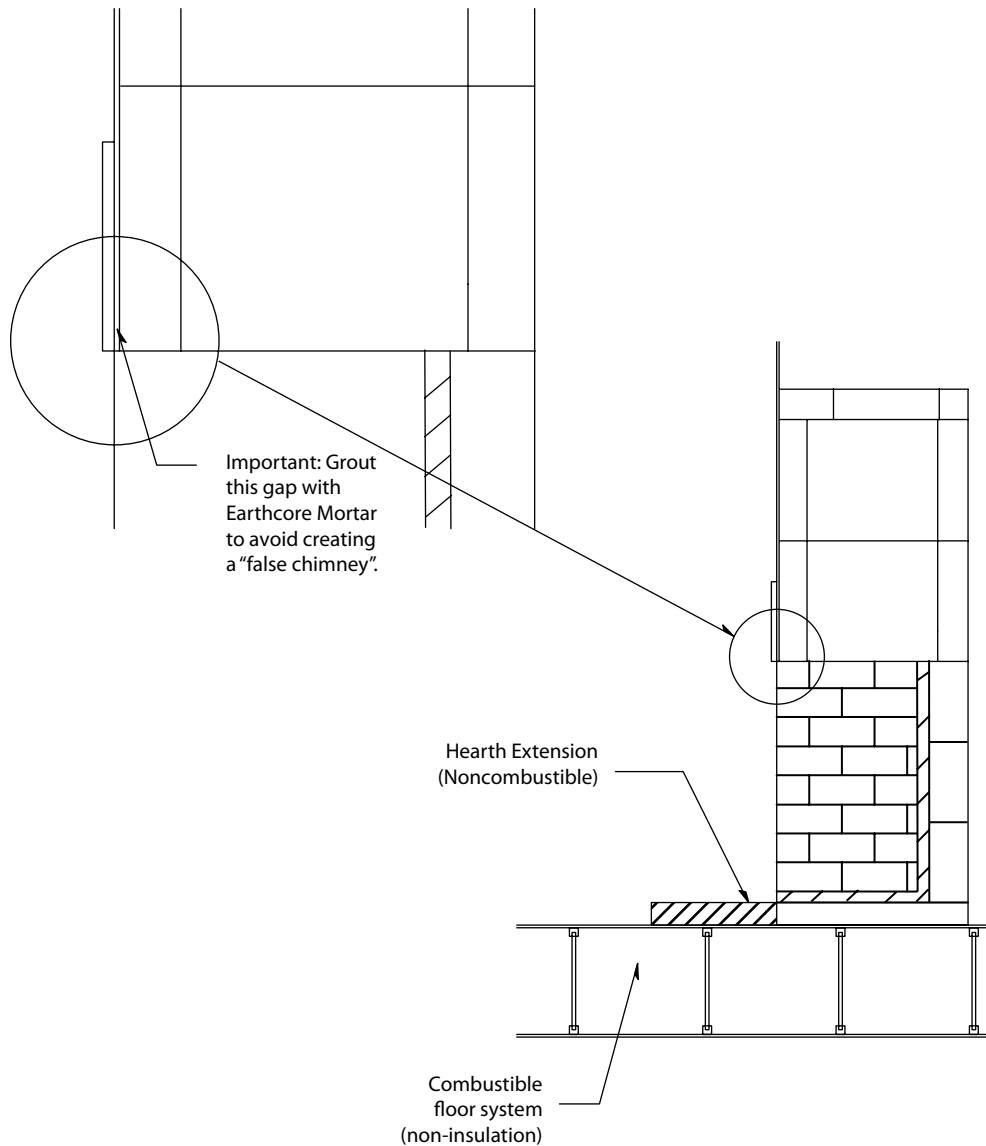

Figure 29
**Important:** Since there is no fire brick set along the top of the IBV firebox opening, when setting the noncombustible facing material (code required and supplied by others) onto the drywall across the top of the firebox opening there will be a gap between the back of the noncombustible finish material and the rough front face of the Isokern Smoke Dome (Figure 29). Be sure to fill this gap with Earthcore Mortar (or similar noncombustible grout) in conjunction with placement of the code required noncombustible finish facing material that is set across the top of the firebox opening.